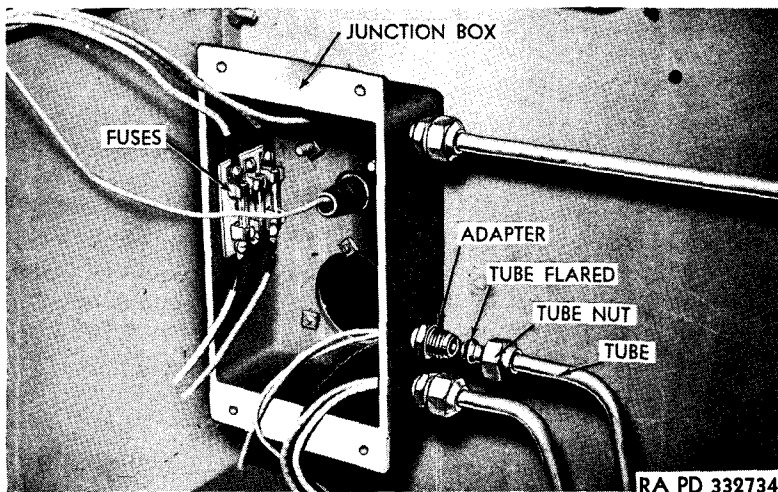

Figure 50—Tubing and Wiring Connections
b. **Removal** (fig. 50). Back off the tubing connector nut and loosen tubing from junction box. Disconnect wire from terminal inside junction box. Loosen opposite ends, then take out the tubing and wire.
c. **Installation** (fig. 50). Cut tubing to proper length with tubing cutter (fig. 36). Insert wires through tubing allowing a few inches to extend out each end. Sta-Kon terminals used on wire ends are as follows: